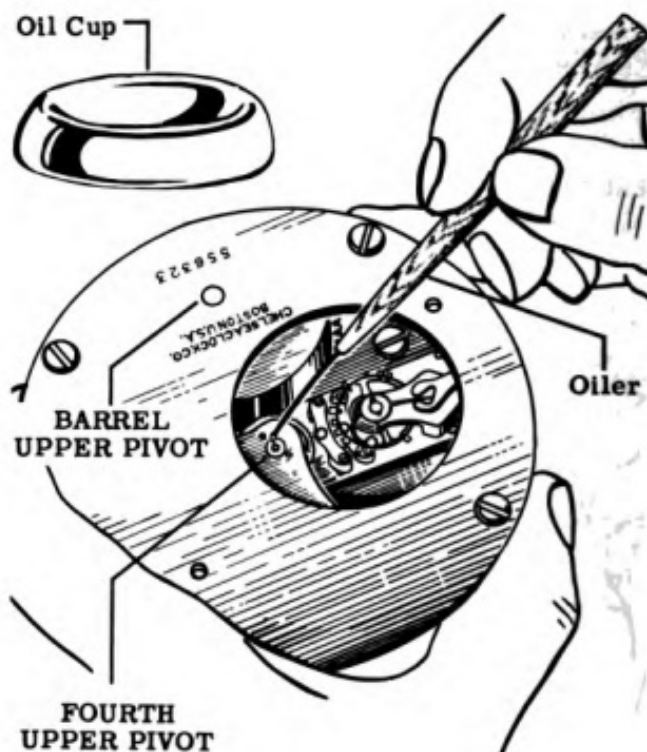

Figure 67
21. Oil the barrel upper pivot and the fourth upper pivot as shown in Fig. 67. See "Timepiece Lubrication" as indexed in the Control Manual.